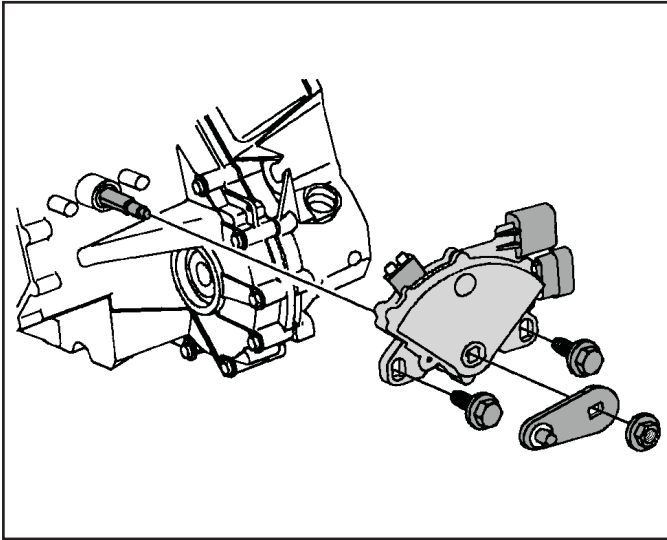

Figure 216
49. Install the Pattern Select Switch and retaining bolts. Do not tighten the retaining bolts at this time (See Figure 216).
50. Install the external manual lever to the manual lever shaft as shown in Figure 216 and tighten the retaining nut to 12 N•m (106 in. lbs).